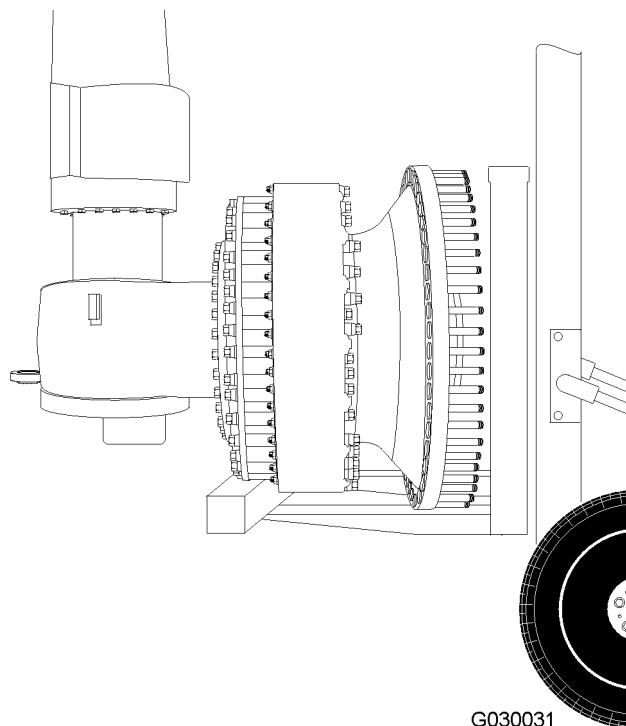

FIGURE 50-9. TYPICAL LIFTING DEVICE (FORKLIFT)
12. Position a fork lift under the wheel hub and spindle assembly as shown in Figure 50-9. Use blocking as necessary to keep the assembly level.